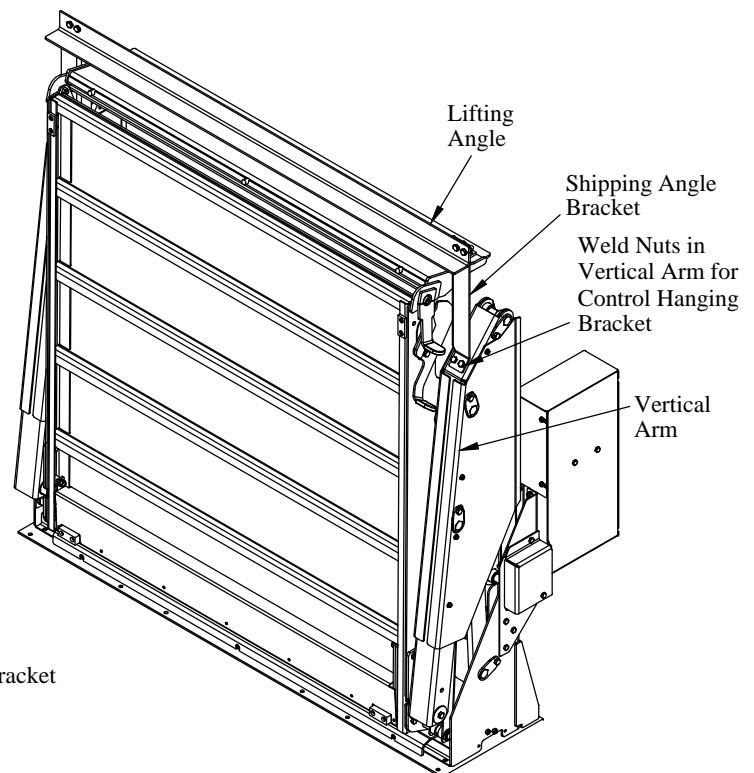

Figure 26: Lifting angle and vertical arm.
5. **Unbolt** and **Remove** the lifting angle and brackets (Figure 26). There are weld nuts inside the vertical arm.